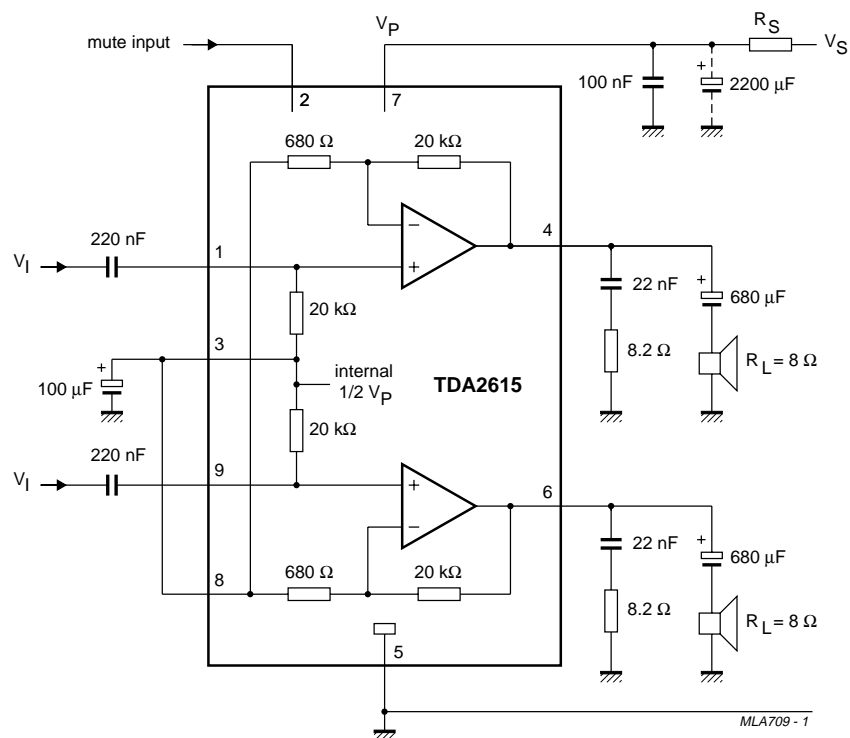

Fig.5 Test and application circuit with asymmetrical power supply.
6. $V_P = 24$ V; $R_L = 8$ Ω ; $T_{amb} = 25$ $^{\circ}$ C; $f_i = 1$ kHz; asymmetrical power supply $I_{MUTE} < 30$ μ A (see Fig.5).